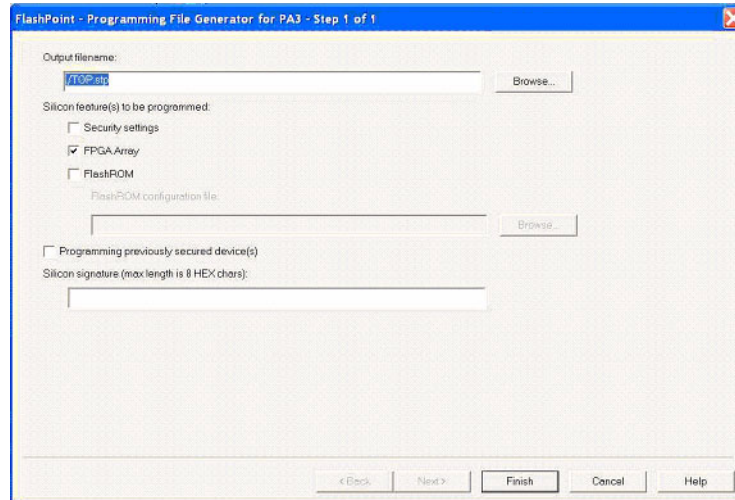

Figure 7-37. Flash Point Dialog Box
1. Open the **Top.adb** file in Designer and click the **Programming File** icon in the Design Flow window, which opens the Flash Point window (Figure 7-37).